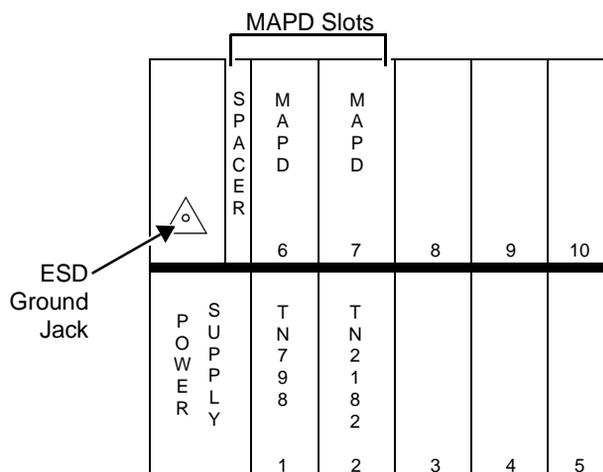

Figure 2-2. MAPD System in a DEFINITY ProLogix Carrier
- For a MAPD system being installed in an existing switch, three contiguous slots in a switch carrier are required to house the MAPD system (slots 16 to 18 as shown in Figure 2-2, "MAPD System in a DEFINITY ECS System Carrier," and slots 6, 7, and the spacer as shown in Figure 2-3, "MAPD System in a DEFINITY ProLogix Carrier"). See Appendix A "PBX Carrier Configuration Worksheets," for carrier worksheets.